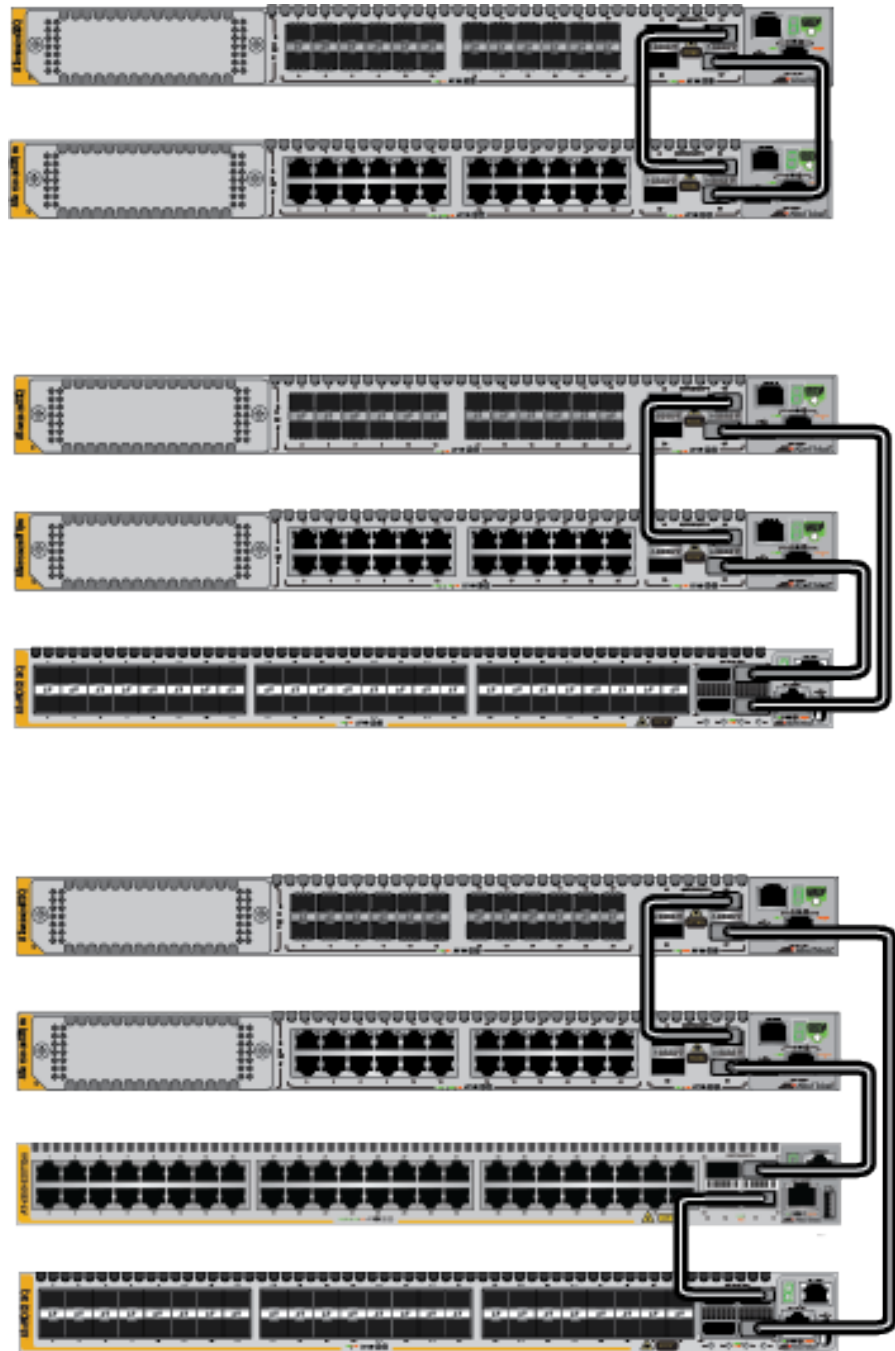
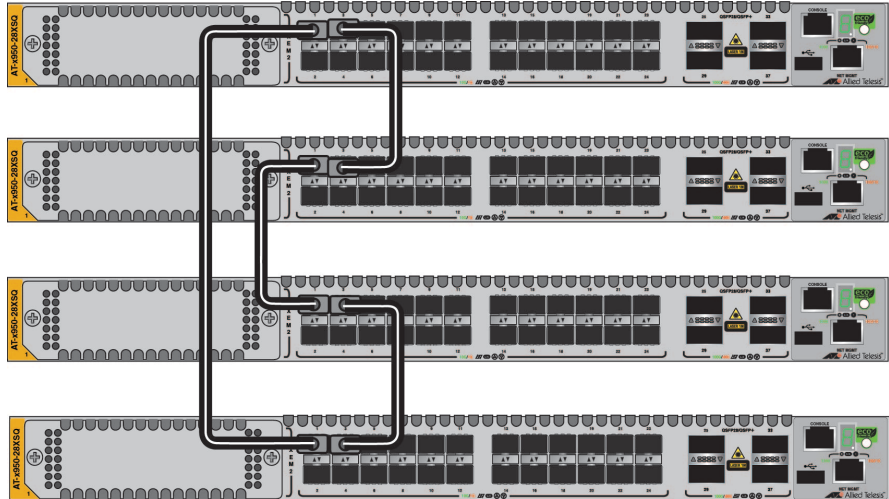
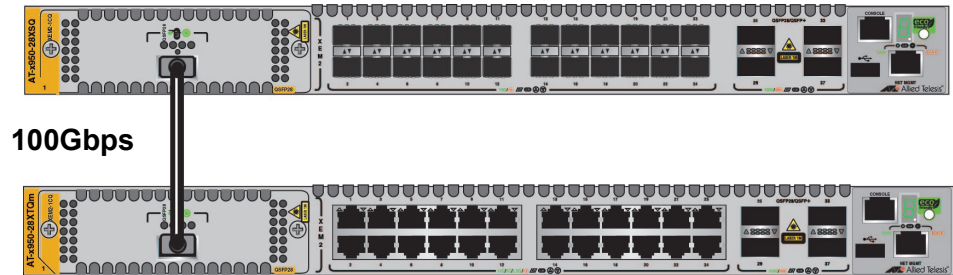

Figure 34. Stack Trunk Examples with 100Gbps Links
Figure 42. Unsupported Trunk with Only One Link Between Switches
Figure 44. Not Recommended Stack Trunk of XEM2-12XS Line Cards
- ❑ Figure 34 illustrates stacks of two, three, and four switches, with ports 33, 37, 57 and 61 and 100Gbps links as the trunks.
- ❑ In most cases, trunks should have a minimum of two links between switches. The trunk in Figure 42 is not recommended because there is only one link between switches. The exceptions to this are stacks of three or more switches with trunks of base 100Gbps ports. Refer to Figure 34 on page 84.
- ❑ Allied Telesis does not recommend using the XEM2-1CQ Line Card for a stack trunk because it has only one transceiver port and the switch has only one expansion port. Refer to Figure 44 on page 90. Instead, use two base 40/100Gbps transceiver ports, as shown in Figure 34 on page 84, to build a 100Gbps trunk.